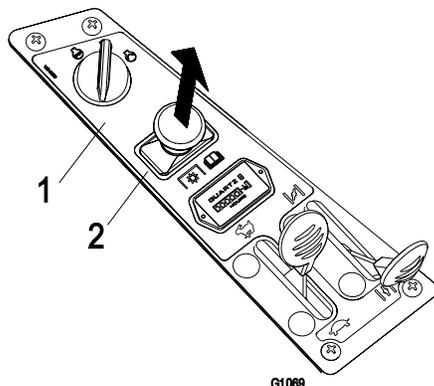

Figure 11
- Pull out on the blade control switch to On to engage the blades (Figure 11).